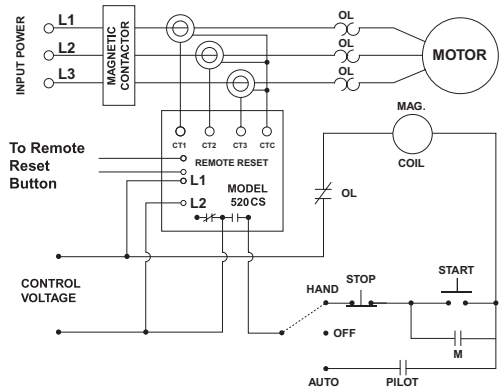

Figure No. 1: Typical Wiring Diagram.
2. Connect the control panel power to L1 and L2 on MotorSaver's terminal strip. See Figure No. 1.
3. Connect the MotorSaver's normally open output contacts in series with the magnetic contactor coil as shown in Figure No. 1.
4. Ensure the proper Current Transformer (CT) size using Table 1.
8. Connect each of the three black CT leads to one of MotorSaver's "CT1", "CT2" and "CT3" terminals. Connect the white CT leads together at MotorSaver's "CTC" terminal. See Figure No. 1.